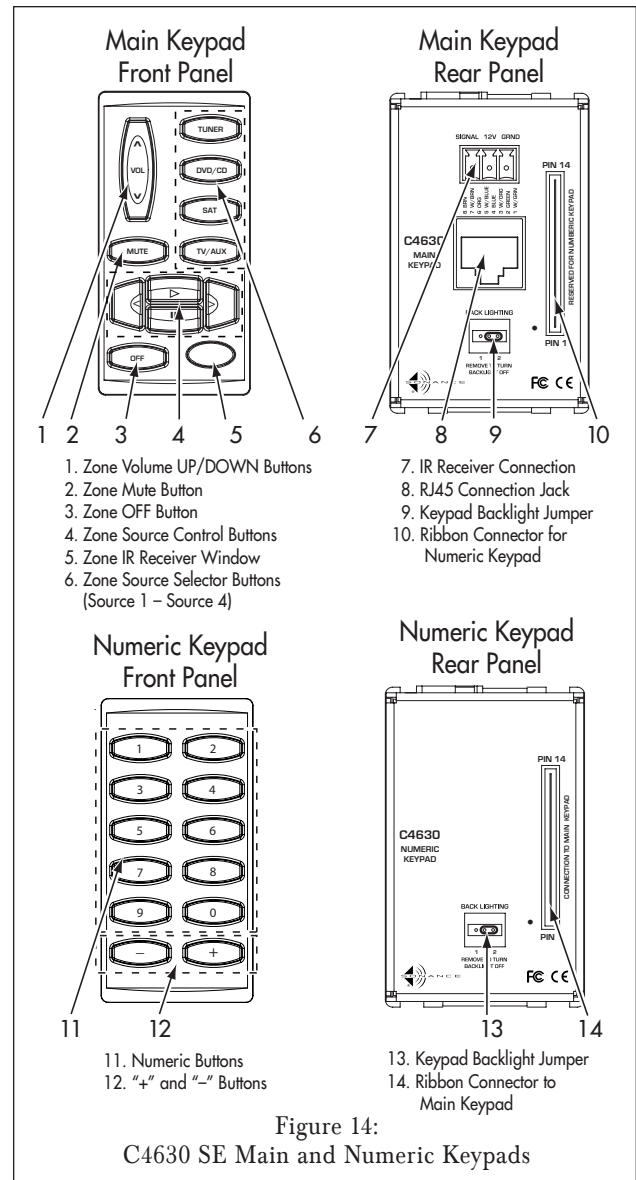
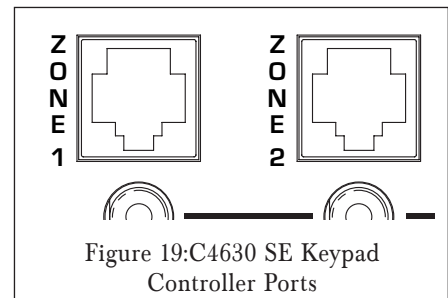

Figure 14:
Figure 19: C4630 SE Keypad
C4630 SE Main Keypad (see Figure 14)
C4630 SE Numeric Keypad (see Figure 14, on page 18)
4. Connect the CAT5/RJ45 cable to the RJ45 Connection Jack on the back of the Main Keypad (see *Figure 14*, on page 18) and to the zone's Keypad Controller Port on the C4630 SE (see *Figure 19*).
The buttons on the optional C4630 SE IR remote will perform the same functions as the correspondingly-named buttons on the Main and Numeric Keypads (see Figure 14, on page 18). Additionally, the remote also has an ALL OFF button and an OK button.
Without additional programming via the Sonance Control Manager, the C4630 SE has very limited functionality. The following functions are available “out-of-the-box” through the C4630 SE Main Keypad (see Figure 14, on page 18) and the optional IR remote: